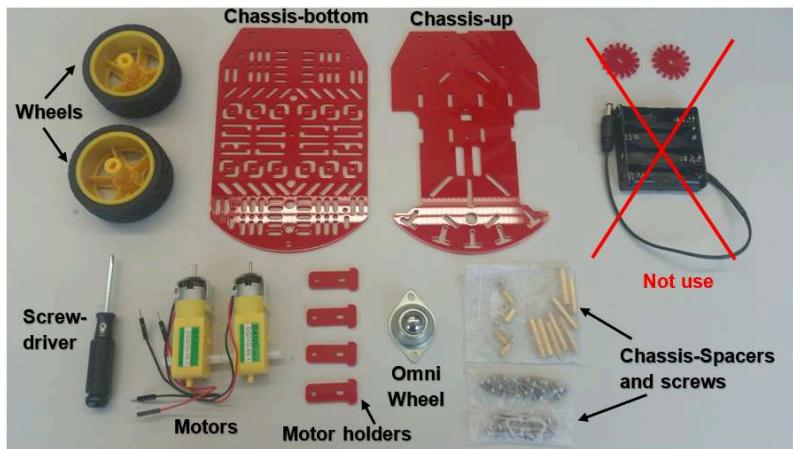

Figure 4.1. Components in Duckiebot package.
Open the Magician chassis package (Figure 4.1) and take out the following components:
**Note:** You won't need the battery holder and speed board holder (on the right side in Figure 4.1).